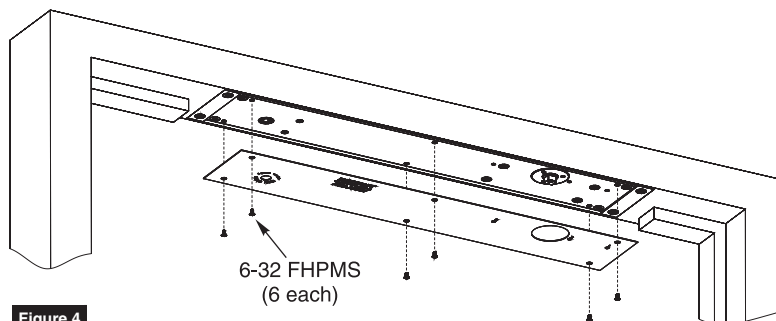

Figure 4
1. Install cover plate to closer mounting plate with six (6) 6-32 x FHPMS mounting screws provided. (Figure 4)